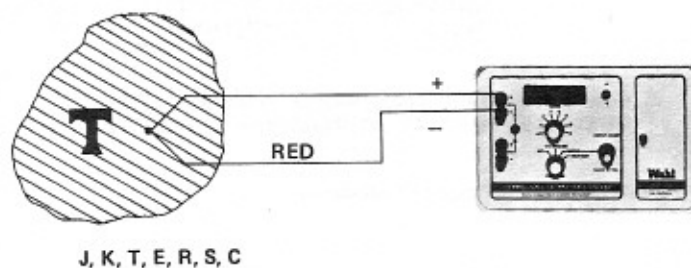

Figure 3-2. Temperature Measurement with C-65 T/C
See Figure 3-2.
- (2) Turn the A/B channel select switch to the connected terminal pair. (Figure 3-2 indicates connection to the "A" terminal as an example only).
- (3) Rotate the RANGE selector switch to the appropriate thermocouple type.
- (4) Rotate the FUNCTION selector switch to the MEASURE function.
- (5) Select the desired temperature units, $^{\circ}\text{C}/^{\circ}\text{F}$.
- (6) Read the temperature in the display. The value has been compensated automatically for the reference junction temperature.